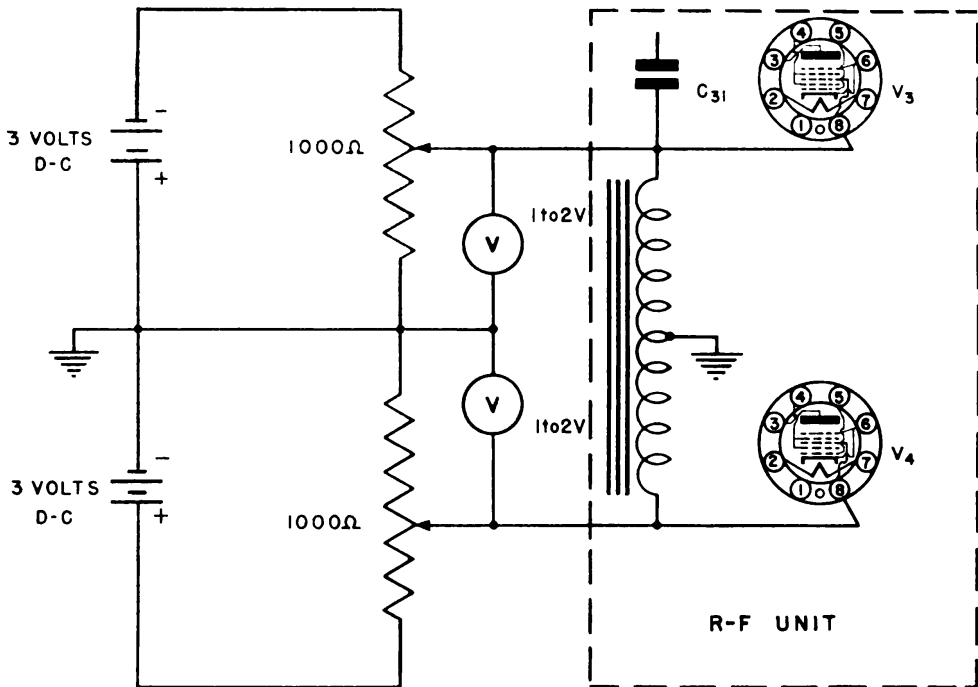

Figure 15—Connection diagram for determination of modulation voltage (d-c method)
(1) Follow procedure outlined in sub-paragraphs 15c(1) through (8).
(2) Connect batteries, potentiometers, and voltmeters to audio input grids of tubes V_3 and V_4 as shown in figure 15.
(3) Set potentiometers so the voltmeters read zero.
- (4) Connect the output terminals of the signal generator to Frequency Meter BC-221-(*).
- (5) Tune the frequency meter to 1900 kilocycles.
- (6) Turn the band switch to I.F. 1.9-4.5 MC.
- (7) Tune the signal generator to 19.
- (8) Adjust the OSC. FREQ. CORRECTOR control until zero beat is obtained as heard in the headsets of the frequency meter.
- (9) Tune the frequency meter to 1905 kilocycles.
- (10) Increase the voltages on the grids of tubes V_3 and V_4 by adjusting the potentiometers, keeping the voltages equal, until zero beat is obtained.
- (11) Record the voltage indicated on the voltmeters.
- (12) Disconnect the batteries, potentiometers, and voltmeters.